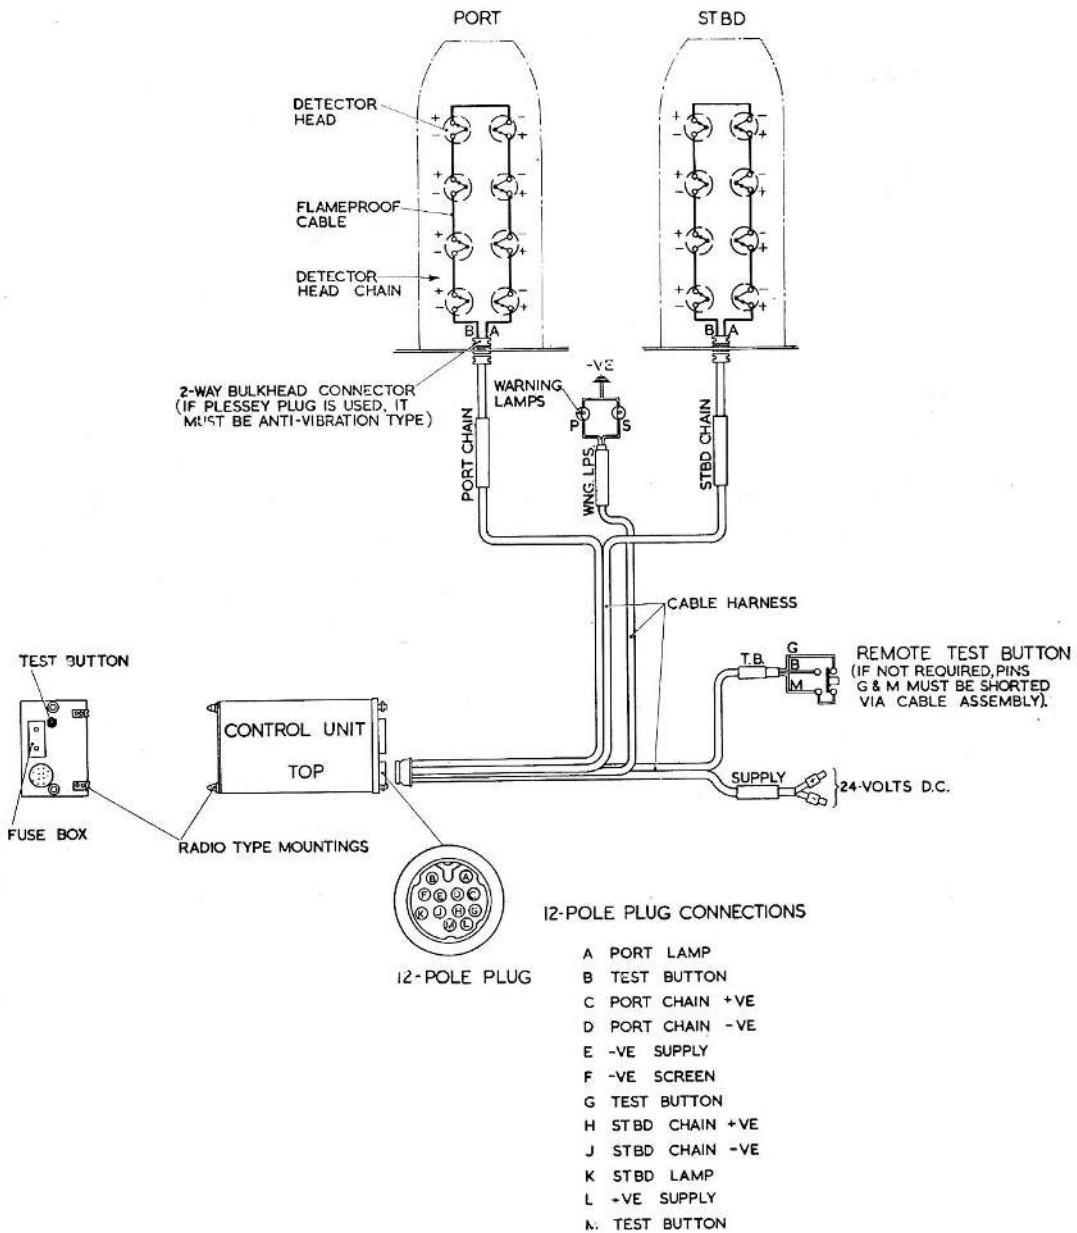

Fig. 3. Typical installation in a 2-zone fire warning system
6. The installation of the control unit is illustrated in fig. 3 which shows a typical